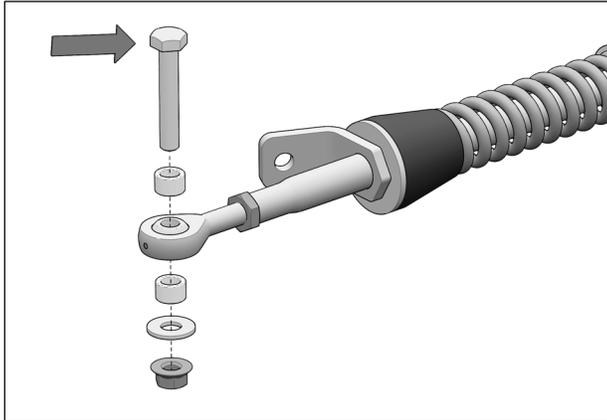

Fig. 16
3. Remove bolts, nuts, washers, and bushings from front stabilizing rod ends. See Fig. 16